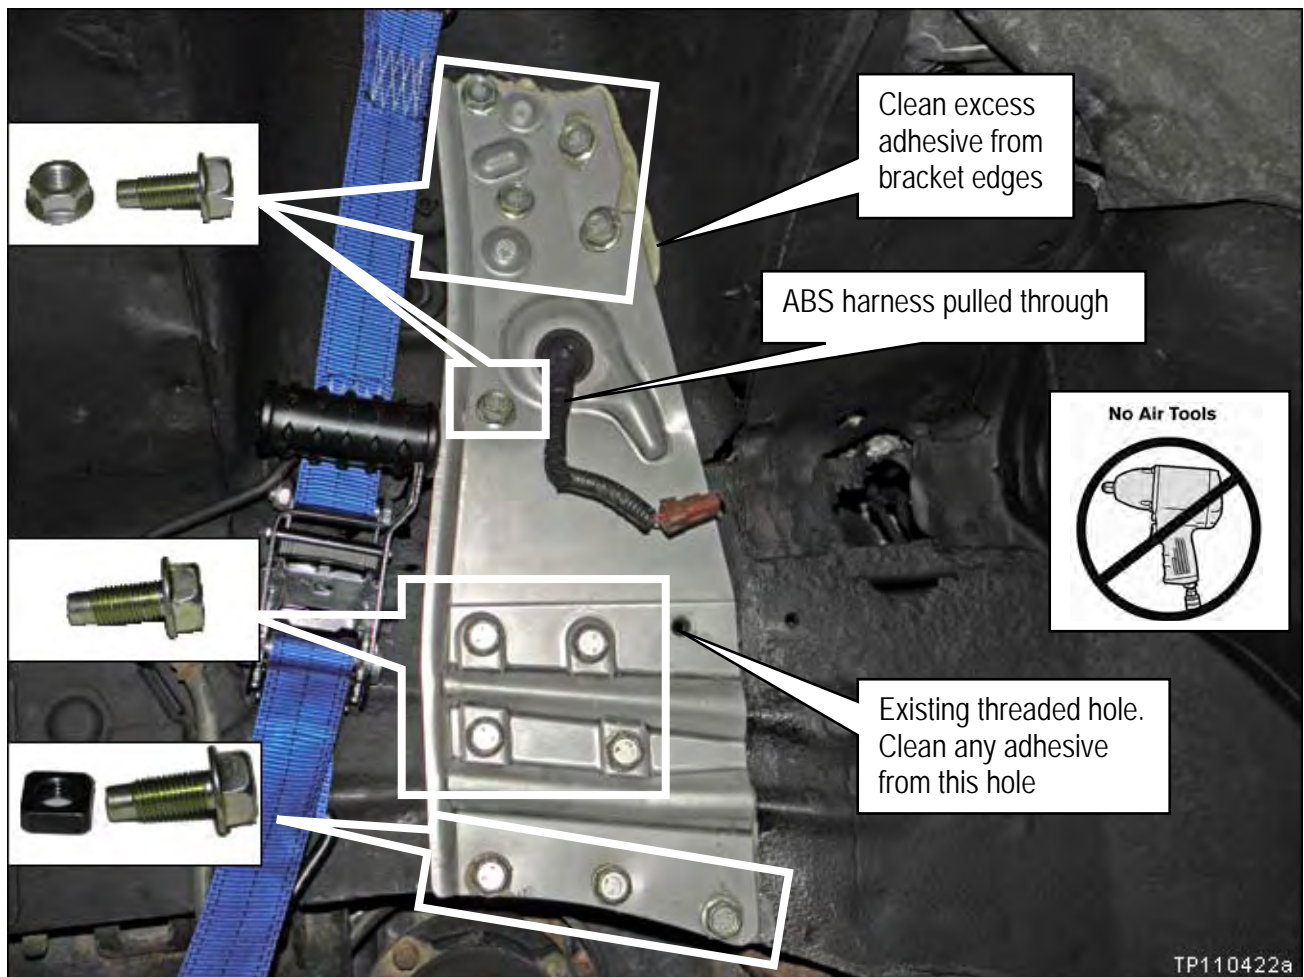

Figure RB24
- Make sure the ABS harness is pulled through its hole (see Figure RB24).
- Use the correct nuts (see Figure RB24).
27. Make sure adhesive is cleaned from the existing threaded hole (see Figure RB24).